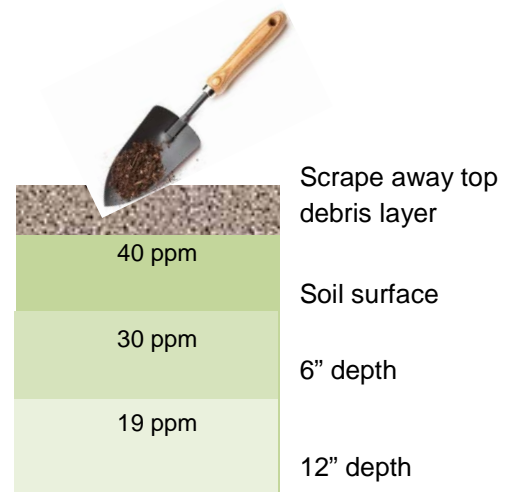

Figure 3. Example of a soil profile
- **At every sample location:** Take characterization samples from the top 0-6 inches of soil, after clearing away grass, leaves, gravel, or debris on the surface (Figure 3); and